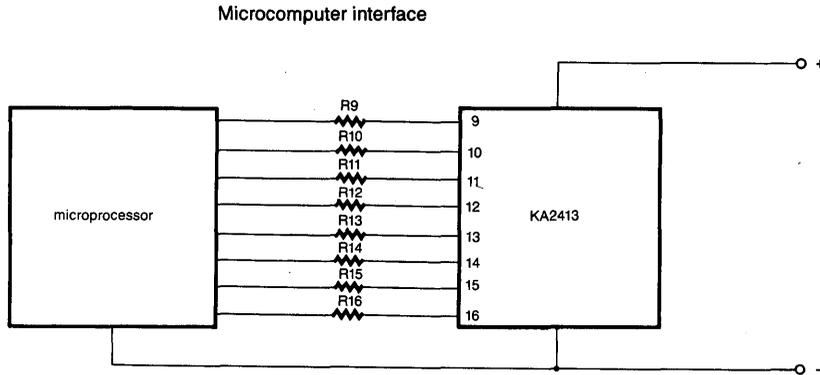

Fig. 5
- KA2413 can also be controlled by a microprocessor (see Fig 5). The negative branch of the microprocessor voltage supply is connected to pin 7 of the KA2413 and the inputs (8) are connected with resistors.